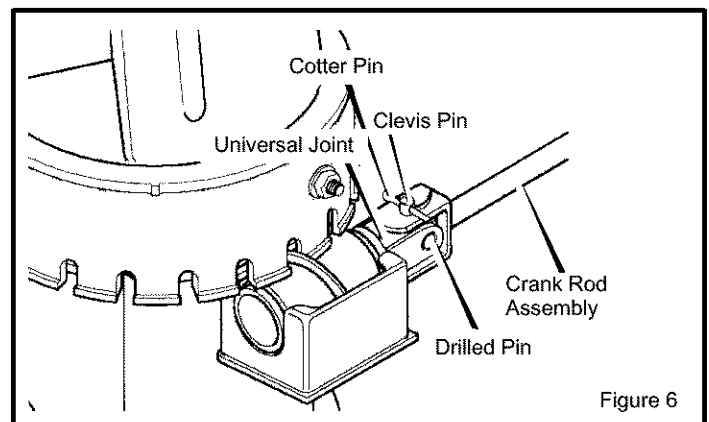

Figure 6
9. Carefully remove cotter pin, clevis pin, and universal joint pin from yoke end of crank rod assembly. (Figure 6)